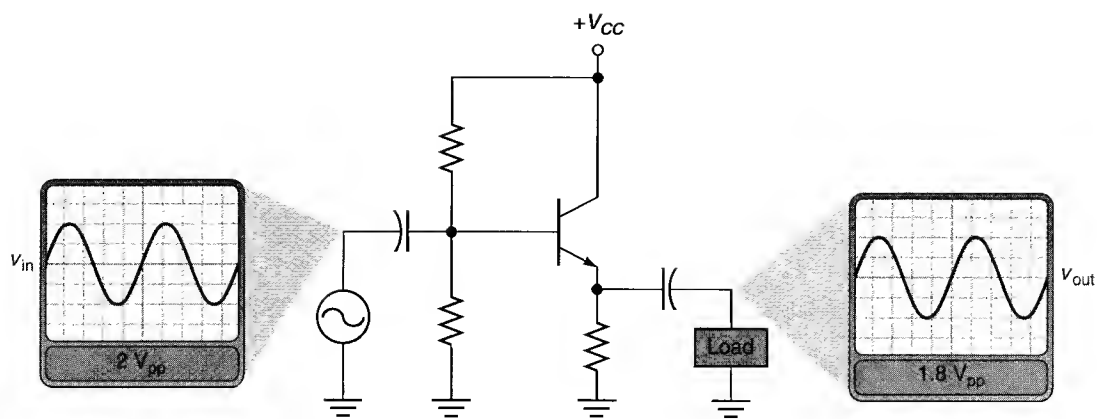

FIGURE 8.14 Common-collector (CC) amplifier.
The *common-collector (CC) amplifier* is another widely used BJT amplifier. A typical CC amplifier is shown in Figure 8.14. As you can see, the input is applied to the *base* of the transistor, and the output is taken from the *emitter*. In this case, it is the *collector* terminal of the transistor that is part of both the input and output circuits and provides the ac ground (or common).
For reasons discussed in Chapter 10, the voltage gain of the CC amplifier is slightly less than *unity* (1). If we were to assume that $A_v = 1$ for a CC amplifier, the output waveform would be identical to the input waveform, as shown in Figure 8.14.